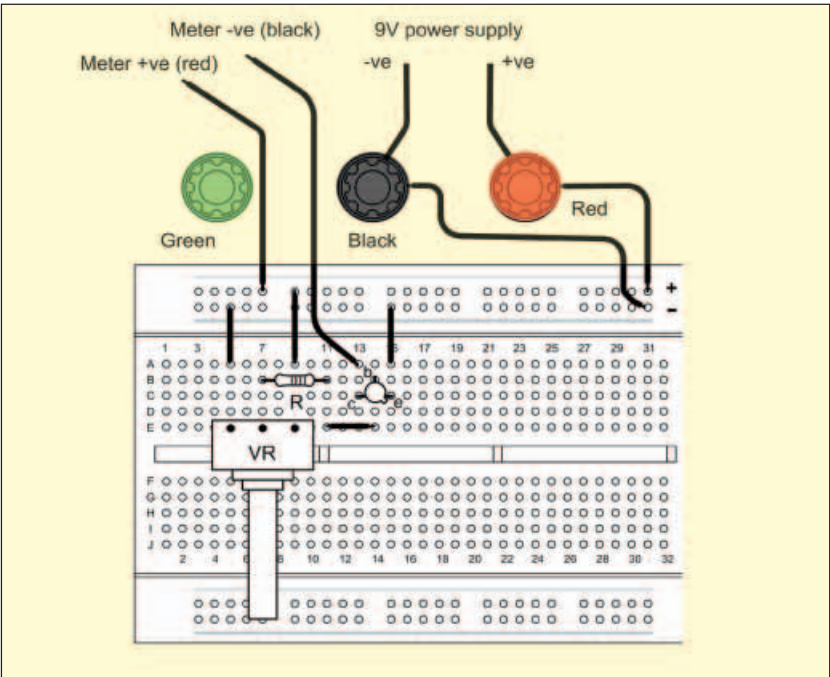

Fig.6.22. Wiring diagram for measuring the collector current in Practical Investigation 6.1
3. Switch off (or disconnect the battery) and reconnect the circuit as shown in Fig.6.20b, Fig.6.22 and Table 6.7. Set the meter to the DC 20mA range.
Table 6.7 To measure collector current in Fig.6.22